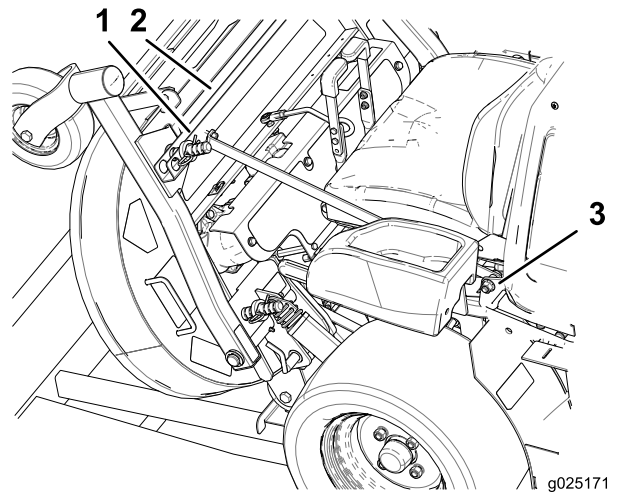

Figure 13
19. While supporting the mower deck, remove and discard the two side struts, mounting brackets, and their hardware on both sides of the seat (Figure 13).
20. Remove and discard the strut located between the front deck support pins (Figure 13).